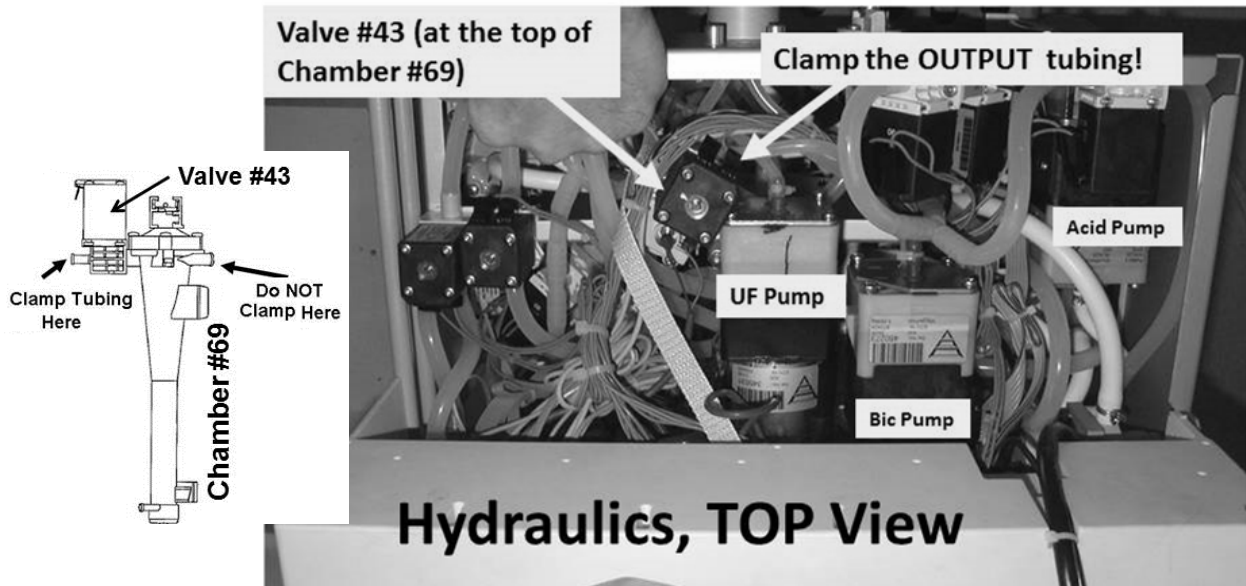

Figure 22 - Isolate Valve #43
- a) Still in RINSE, CAREFUL HERE! **Per Figure 22 (below)**, DOUBLE CLAMP Valve #43's OUTPUT tubing! **NOTE!** Valve #43's output tubing extends towards the front of the machine!